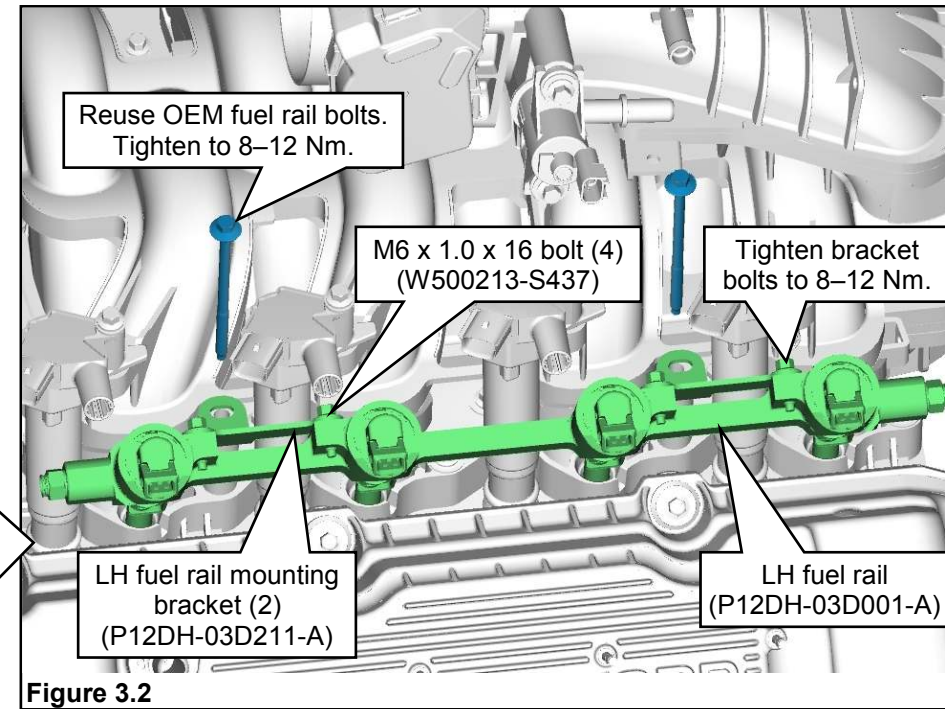

Figure 3.2
4. Attach the two LH fuel rail mounting brackets to the fuel rail using four M6 x 1.0 x 16 bolts found in P12DH-ENGKIT-A. Tighten to specification. **Figure 3.2.**
5. Install the LH fuel rail assembly on the driver side of the intake manifold. Fully seat the nozzles in the injector bores. Reuse two OEM fuel rail bolts to secure the fuel rail. Install bolts by hand to avoid cross-threading. Tighten to specification. **Figure 3.2.**